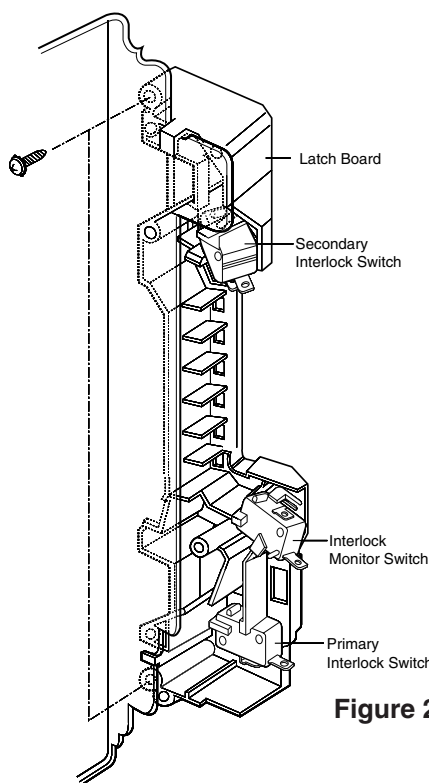

Figure 22
- (1) Set the microwave oven on its side so that you can see the latch board and the switches, as shown in Figure 22.